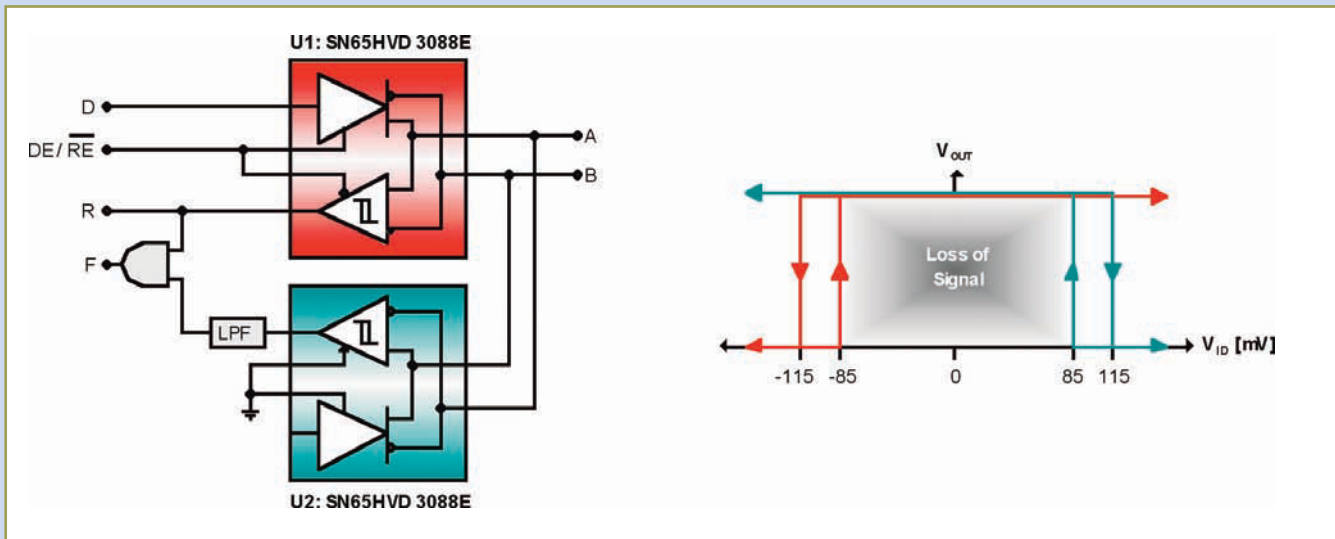

Figure 1: LOS indicator with transfer function
Modern transceivers featuring integrated failsafe biasing have their input threshold voltages offset into the negative voltage range, thus driving the receiver output high when the input signal exceeds an upper negative threshold. See U1 thresholds in **Figure 1**.
Figure 1 shows the LOS indicator circuit with its associated transfer functions on the right. The design requires two transceivers. The first is a primary transceiver taking care of the standard data traffic and indicating signal voltages higher than -85mV . The second is a transceiver with reversed input polarity, indicating voltages below $+85\text{mV}$. AND-gating both receiver outputs causes output fault (F) to assume logic high for voltages between -85mV and $+85\text{mV}$. Thus, indicating the loss of an input signal.